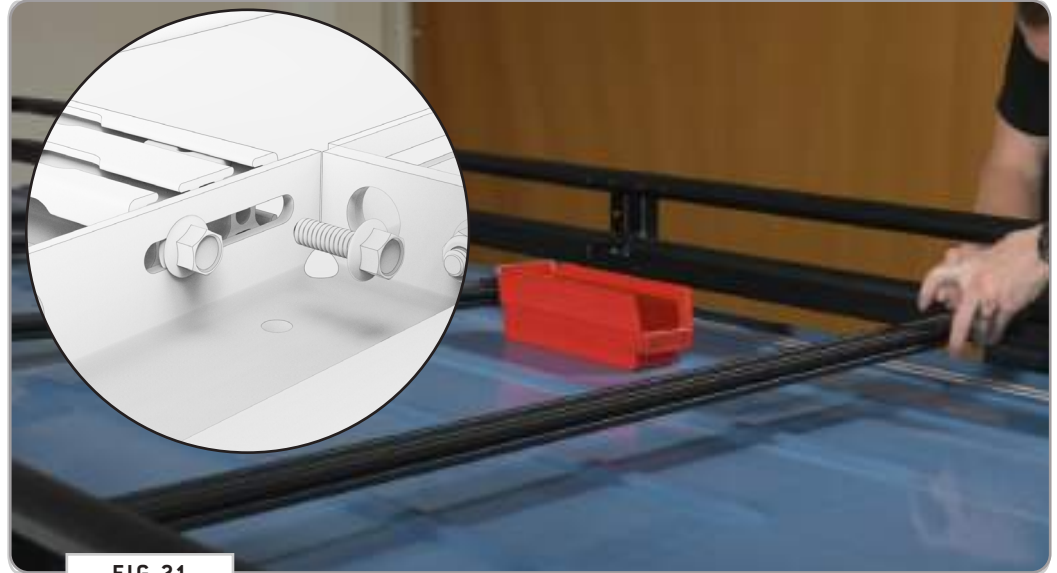
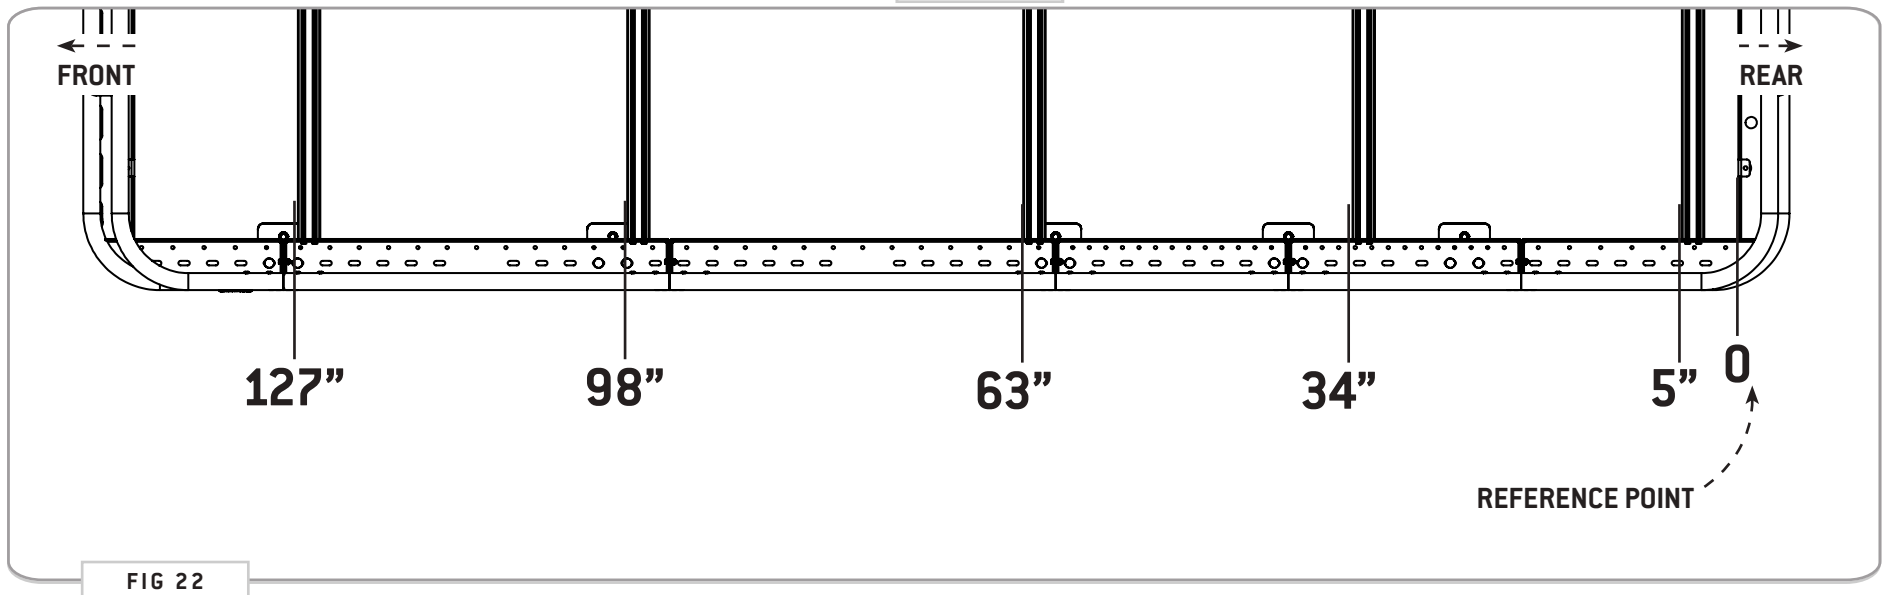

FIG 21
FIG 22
**9.1 Attach Crossbars:** Using (4ea) 1/4-20 Flanged Hex Bolts with Loctite (FIG 21), attach Crossbars to the rack in the locations shown in FIG 22. Be sure to measure both sides to ensure that the crossbars are square.